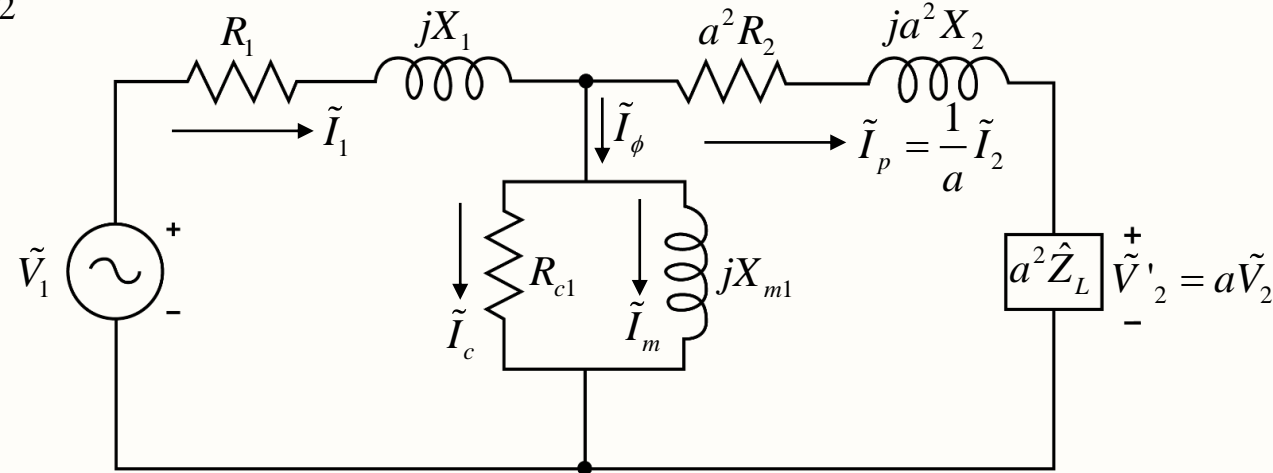

Fig. 18. Exact equivalent circuit referred to the primary.
- ❖ The equivalent circuit can be referred to the primary side (see Fig. 18) by making the following transformations: